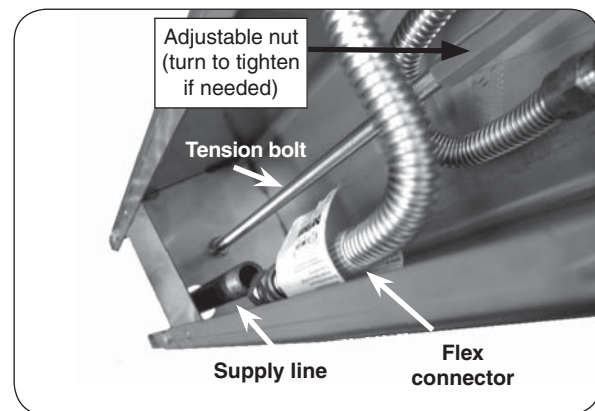

Fig. 10-2 Post interior detail
2. Verify that the gas supply line fits through the gas line clearance hole in the bottom of the post (see Fig. 10-2). The clearance hole is the larger of the two holes in the bottom of the post and is off center.